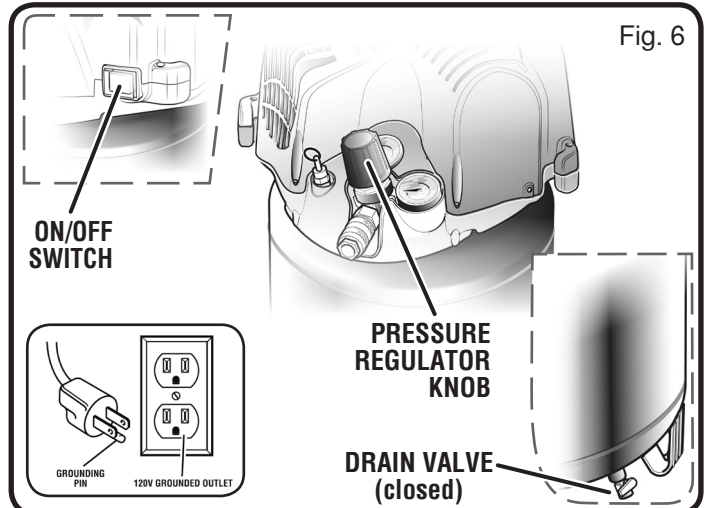

Fig. 6
See Figures 6 - 7.
- Ensure the tank drain valve is closed (see Fig. 6).
- Ensure the ON/OFF switch is in the **OFF (O)** position and the air compressor is unplugged (see Fig. 6).
- Ensure the pressure regulator knob is turned fully counterclockwise (see Fig. 6).